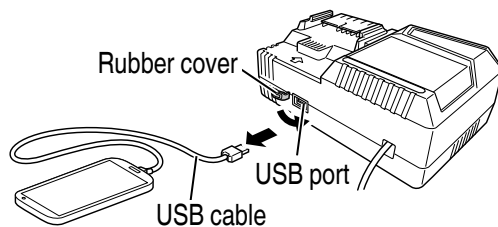

Fig. 12
- (3) When charging is completed
- Unplug the power cord from the electrical outlet. (**Fig. 12**)